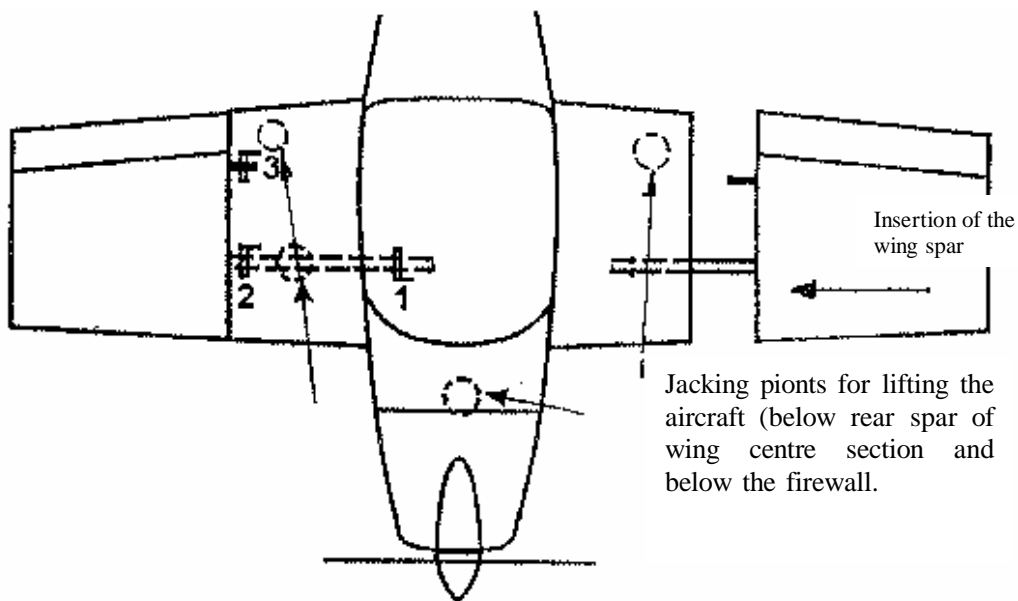

Fig. 3 Insertion of the wing spar into the wing centre section, position of the wing pins and the support points.
1. Fit the spar end of the right wing into the spar end (fork) of the wing central section and push the wing along its longitudinal axis so that a connection slot between the wing central section and the wing root is approx. 100 mm (Fig. 3).
4. Pull out the wing along its longitudinal axis so that there is a distance between the wing and the wing root of approx. 100 mm (Fig. 3). Disconnect the hoses from the Pitot-static tube (disconnect the position lights wires etc, if lights installed).